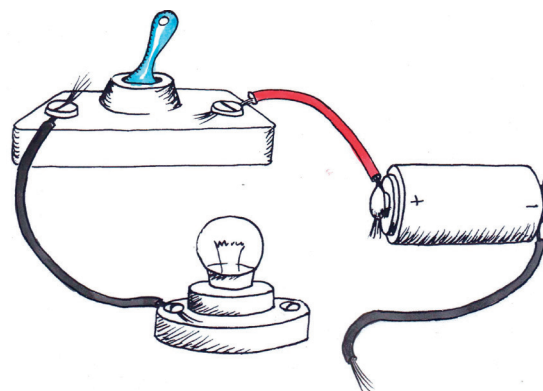

Figure 4
2. Connect the components as shown in the diagram in Figure 4.